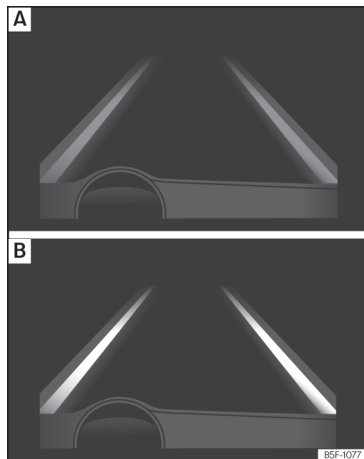

Fig. 267 On the instrument panel display: Indication on the Lane Assist system display (example 1).
- The system is active, but not available, either because the minimum speed has not been reached or because the lane lines are not recognised »»» Fig. 267 A.
- The system is active and available, both lane lines are recognised. The steering angle is not being corrected at this moment »»» Fig. 267 B.